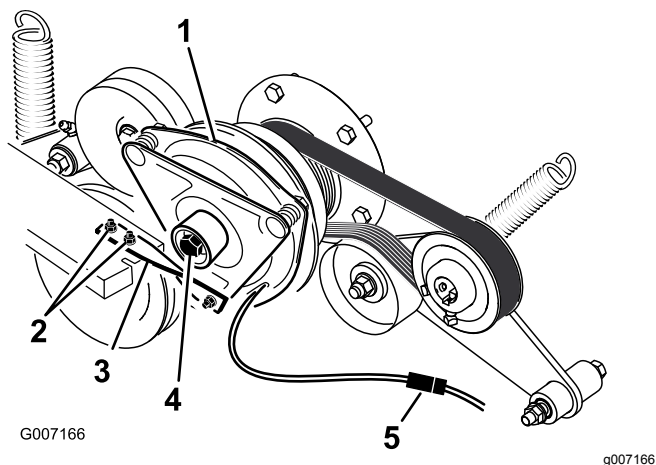

Figure 69
6. Unplug the electric connection for the clutch (Figure 69).
7. Remove the 2 bolts holding the rubber clutch strap to the mower frame (Figure 69).
8. Remove the center bolt holding the clutch to the engine shaft and remove the clutch and key (Figure 69).
16. Install the rubber clutch strap to the mower frame with the 2 previously removed bolts and nuts (Figure 69).
18. Plug in the electric connection for the clutch (Figure 69).
15. While holding the crank shaft at the back of the machine, install the center bolt and torque it to 68 N·m (50 ft-lb) (Figure 69).